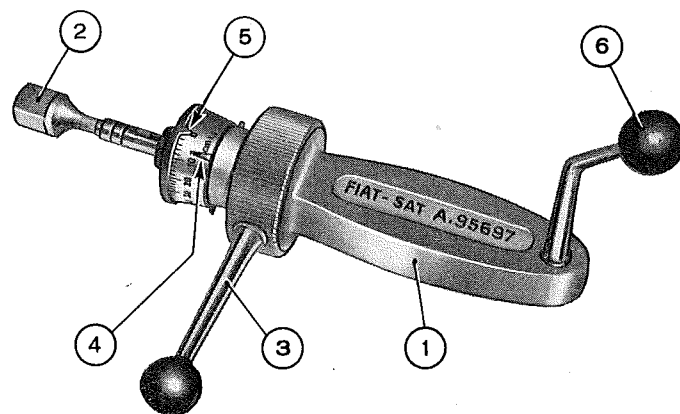

Fig. 257 - Bearing rotation torque dynamometer.
Install support A. 95697/2 on wheel drum. Insert the shank (2, fig. 257) of dynamometer A. 95697 in support and grasp lever (3).
Move the needle (5) to register .36 ft.lbs (50 kgmm) on dynamometer scale, as shown in fig. 257 and, using the lever (6), rotate the dynamometer and the wheel shaft some turns, clockwise.